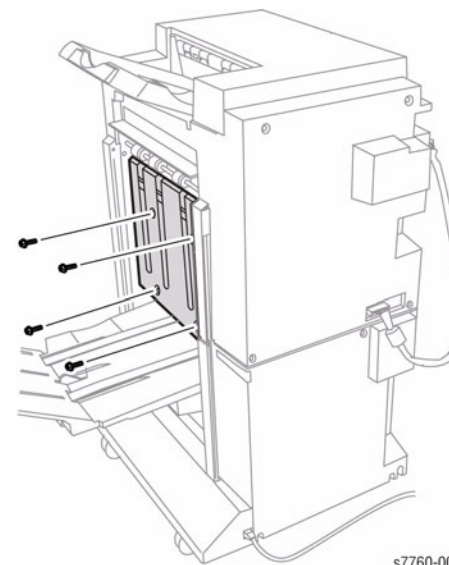

Figure 2 Removing Inner Cover (Advanced Finisher shown)
3. Remove the 4 short screws securing the Inner Cover and remove the Cover (Figure 2 and Figure 3).